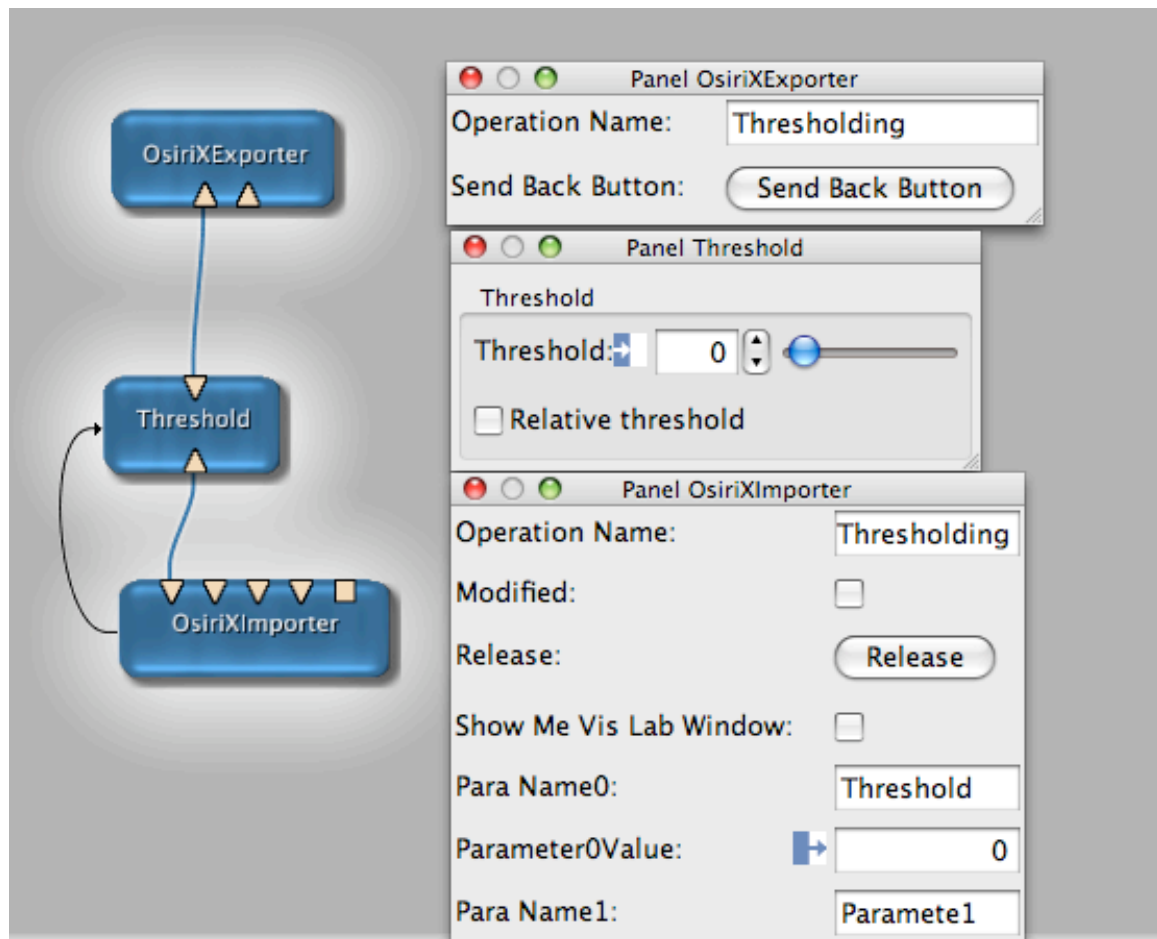

Figure 3. Network in MeVisLab
- a. Create processing network in MeVisLab as shown in figure 3